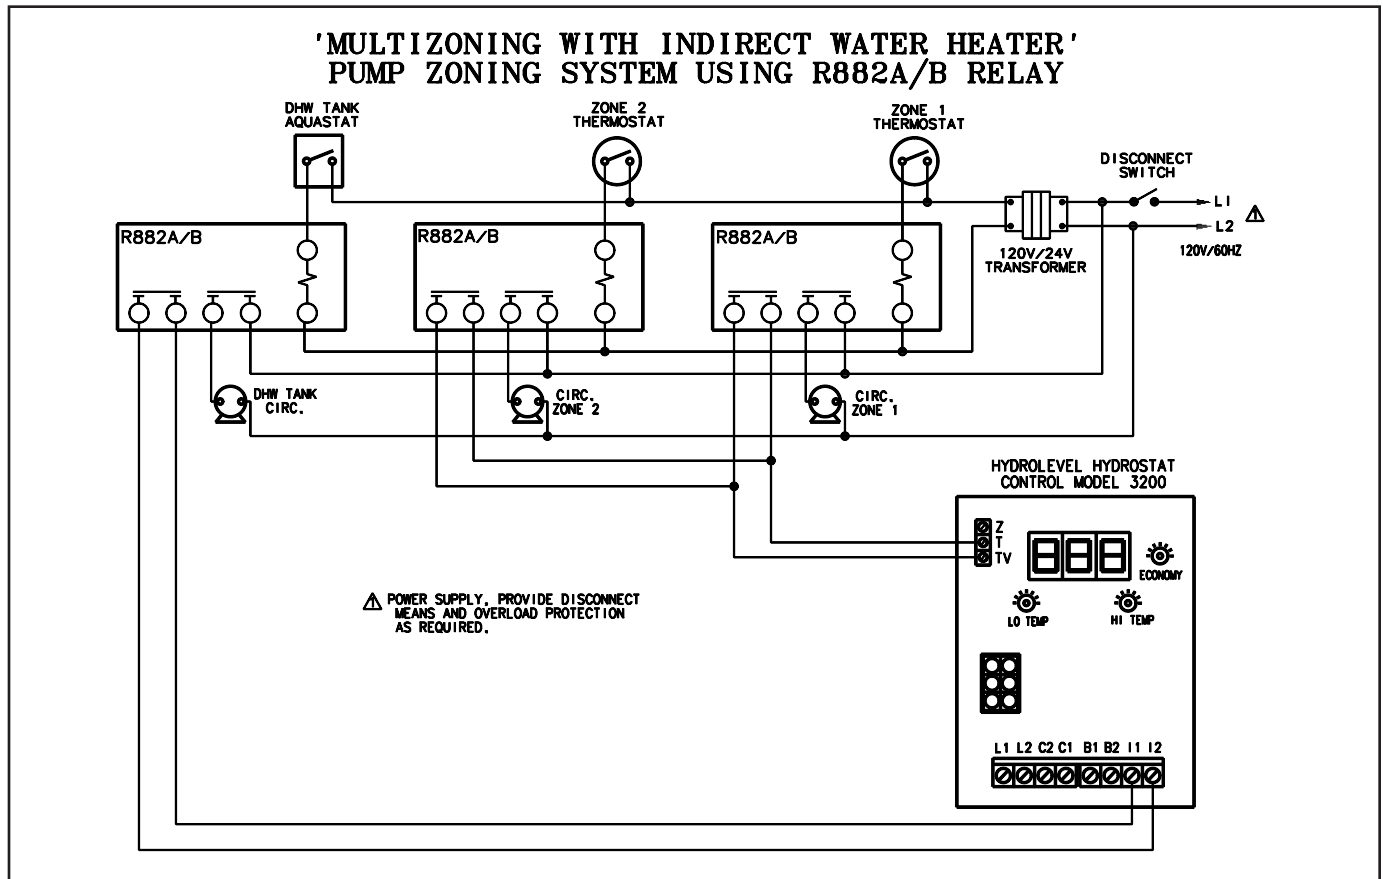

Figure 14.
If system includes indirect water heater, the indirect signal must be separated from heating zones(s) system. See figure 14 and 15. Follow steps below:
- Power DHW and heating zone(s) circulators through end switch relays as shown on figure 14. Do not connect heating zone(s) circulators to C1 and C2 of the control.